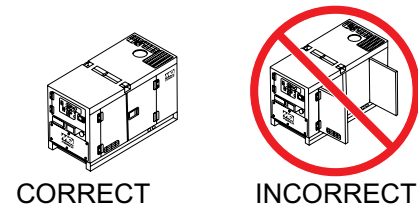

Figure 38. Engine Enclosure Doors
6. Close all engine enclosure doors (Figure 38).